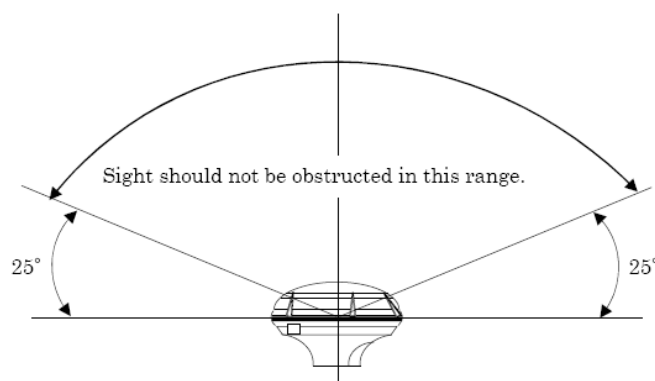
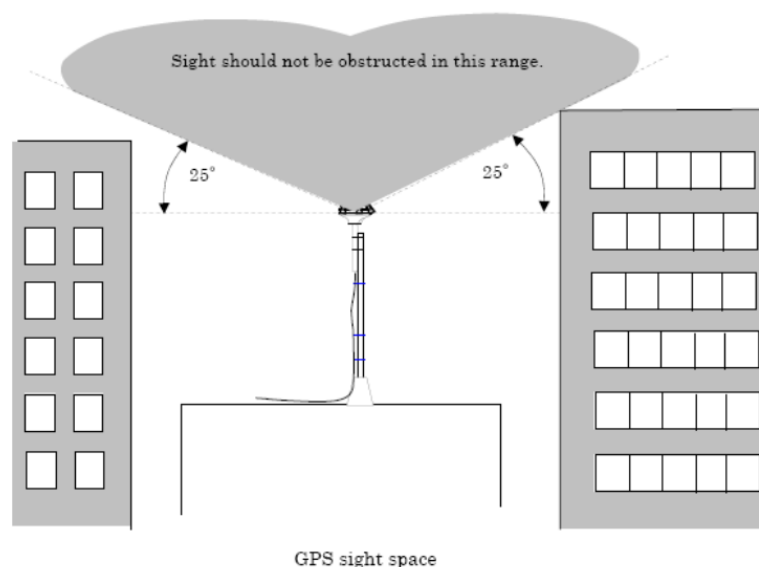

Figure 3.9-4 GPS sight range
Figure 3.9-5 GPS sight space
- ◆ Note2: There shall be no obstruction at the place of 25 degrees or more from the horizontal surface at the center (excluding antenna), as shown in Figure 3.9-4 and Figure 3.9-5.